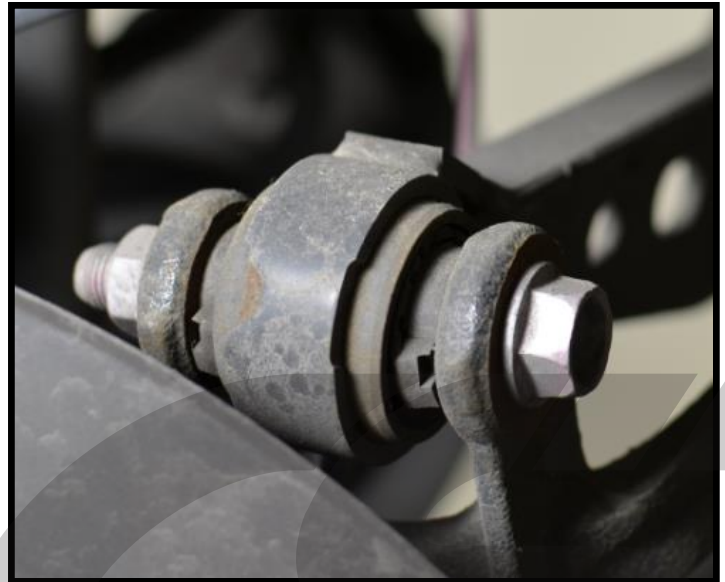

Figure 2e
- f) Remove the 17mm bolt and nut then remove the OEM upper control arm. **Shown in Figure 2e.**